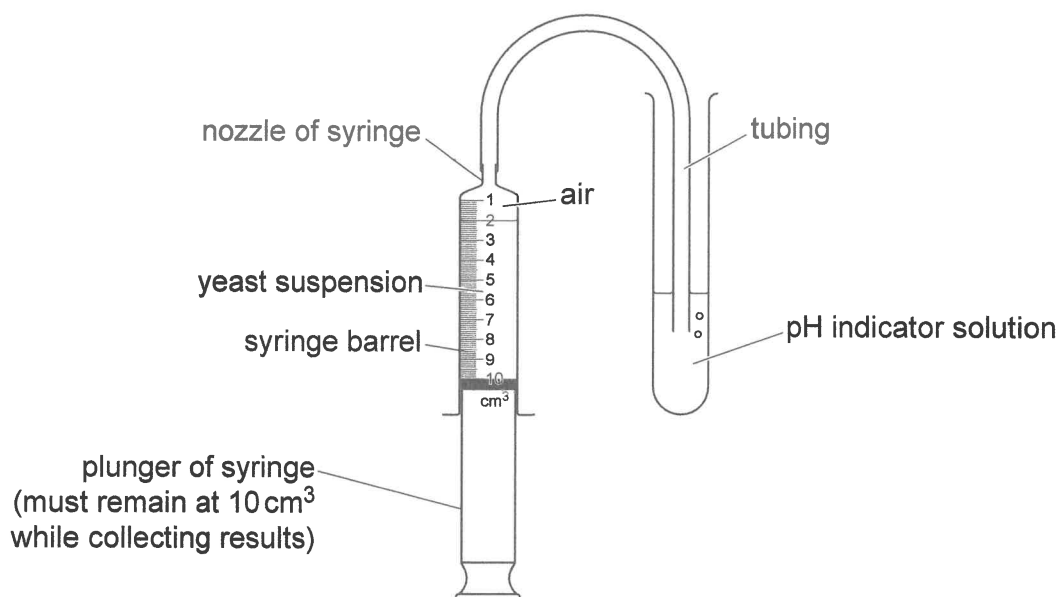

Fig. 1.1
- Step 10 Put the free end of the tubing into test-tube 1 in the test-tube rack as shown in Fig. 1.1. Note the start time and record it in minutes and seconds in Table 1.1.